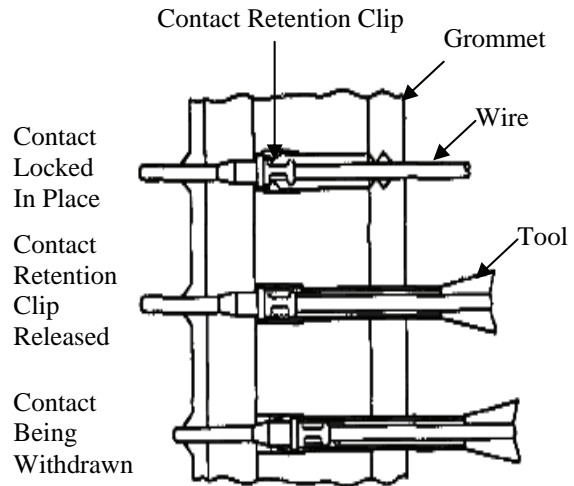

Figure 14. Unlocking Contact Mechanism
d. Insert tool into contact cavity until tool tip bottoms against contact shoulder (Figure 14). A slight increase in resistance will be noticed just before the tool tip bottoms. This will spread the retention clip and release its hold on the contact.